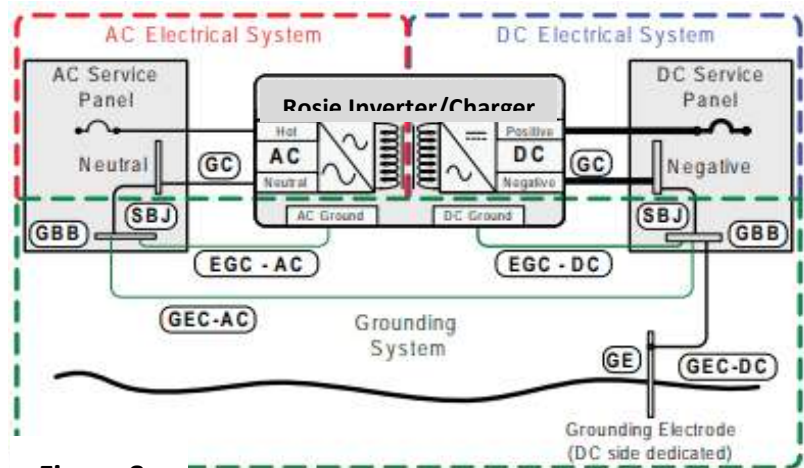

Figure 8
- **Equipment Grounding** – Grounding for exposed metal parts, like the inverter chassis, solar panel frames, etc. **See Figure 8.**
- **System Grounding** – The bonding of a current-carrying wire to earth ground, such as the two SBJs shown in **Figure 8** or the single SBJ shown in **Figure 9.**
Reference **Figure 8** below for grounding system terminology.